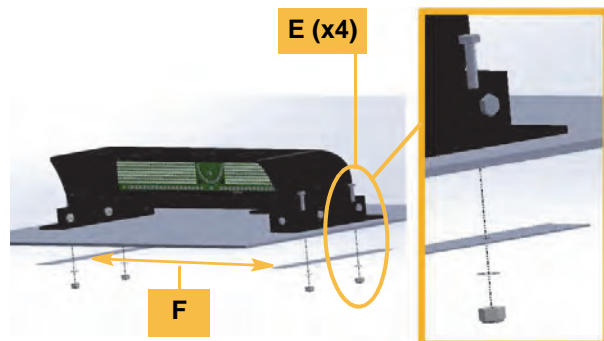

Figure 2b: Lightbar on vehicle—backing plates used (A/A shown)
- c. Using hardware E (short or long bolts as required) secure the lightbar to the vehicle (Figure 2b - A/A bracket combination shown). If required, use the backing plates F on the underside of the mounting surface for additional reinforcement: they provide additional support to prevent the bolts pulling through the surface under vibration.